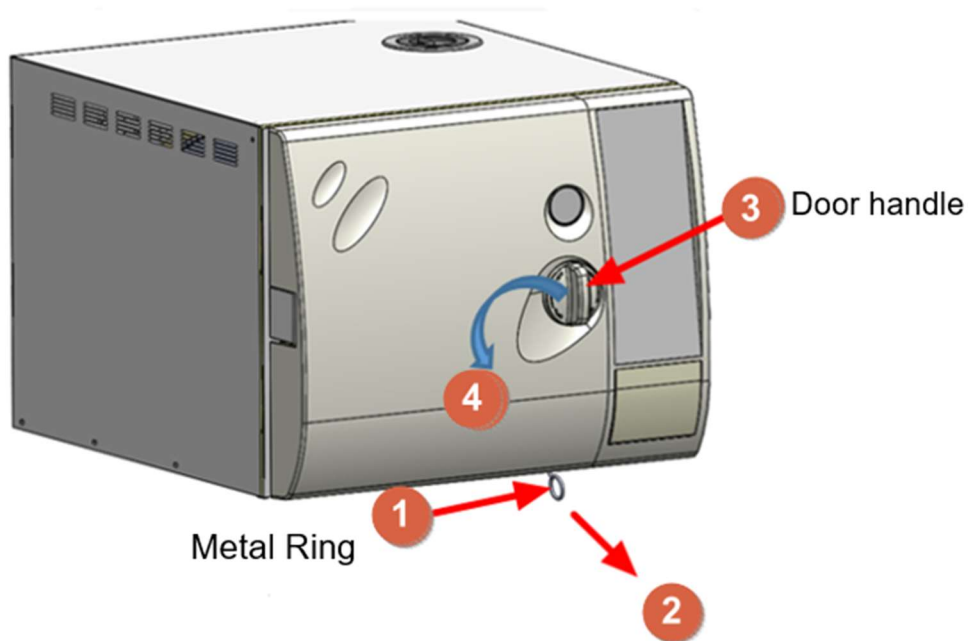

Figure 33
The door releasing mechanism is located beneath the front door as shown in ① of Figure 33. Use left hand to pull the metal ring towards ② (front position), at the same time use right hand to grab “Door handle” ③ of Figure 33, turn “Door handle” ③ counter-clockwise to 90 degree (④), then the door can be opened.